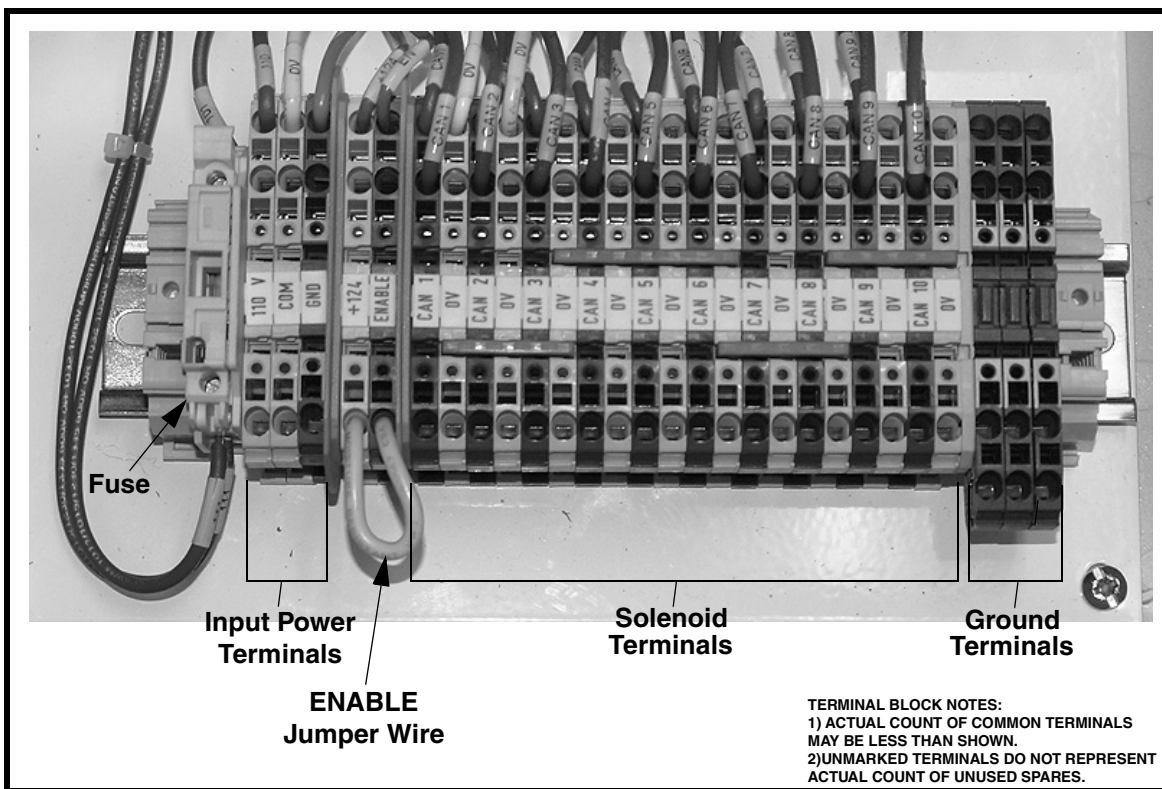

Figure 2. Terminal Block Layout
1. Connect wires from air cannon solenoids to terminal strip outputs 1 through 10 and N terminals (see Figure 2). Connect number 1 solenoid to 1 supply and N, number 2 solenoid to 2 supply and N, etc. Continue until all solenoids are connected.